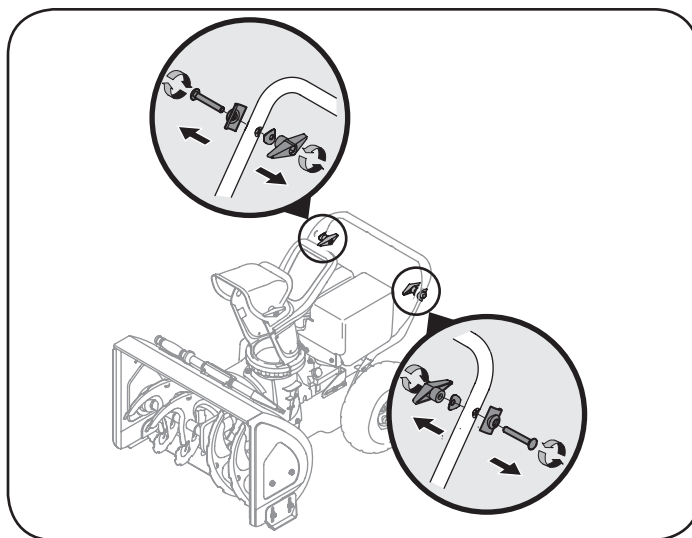

Figure 1
1. Loosen and remove the wing knob, saddle washer, handle tab and carriage screw on each side of the lower handle. See Figure 1.